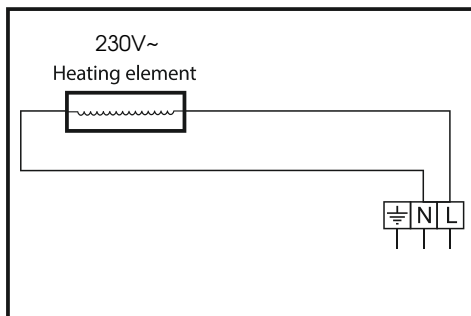

Fig. 2
3. Collect the installation wall mount holes as shown in Fig. 2
On Fig. 2, 3, 4, 5 shows stepwise instructions on assembly and installation of wall fasteners for infrared heater.